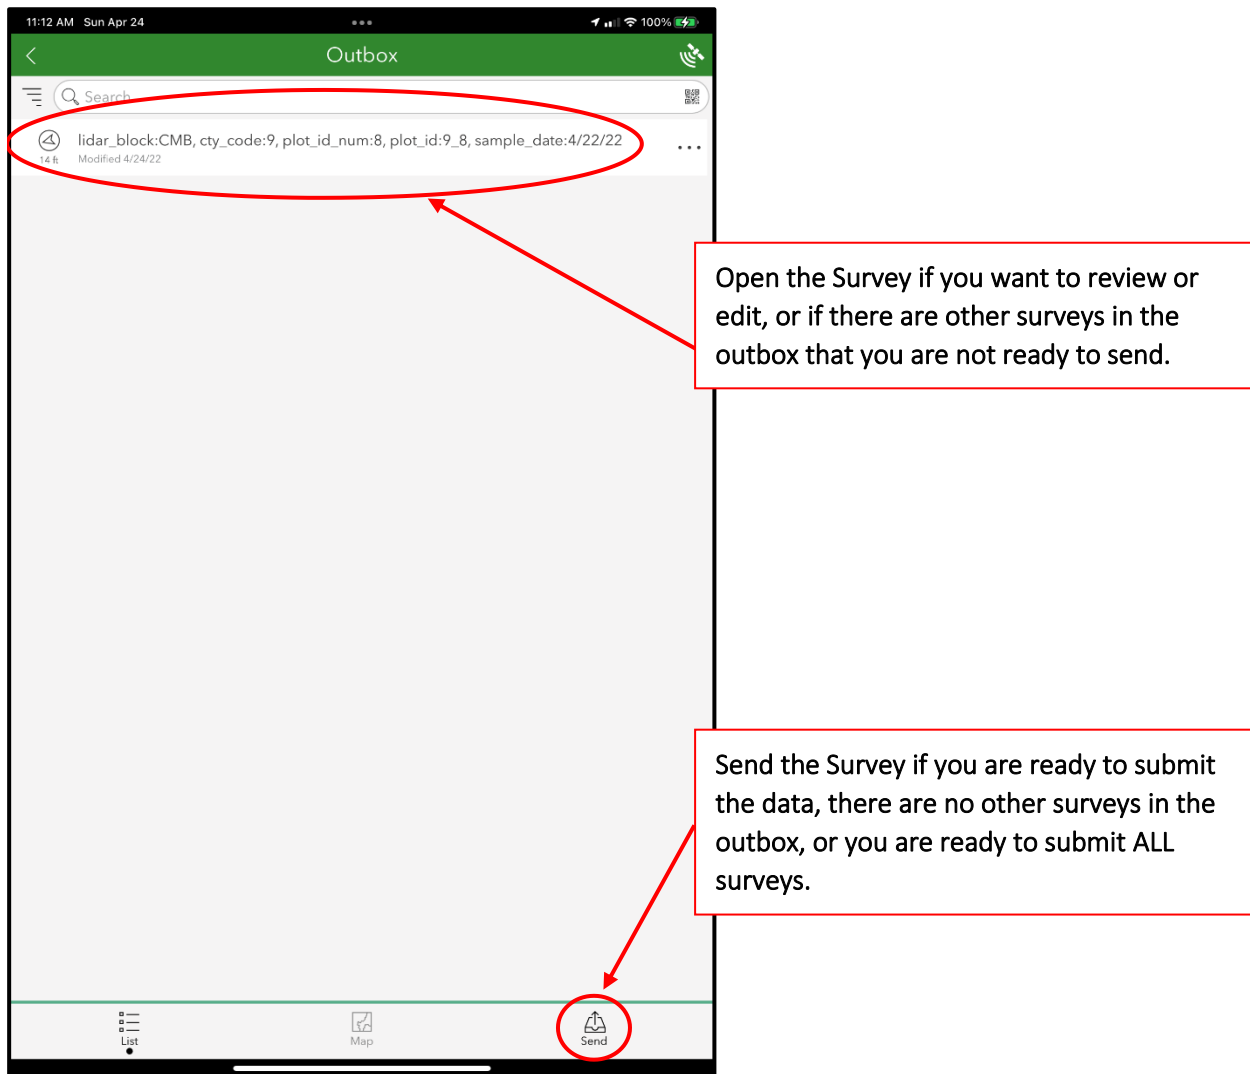

Figure 63. Figure showing sending survey from the Outbox options with Red Circles and Lines showing options with labels
6. Select “Outbox” and follow the instructions below (Figure 63)